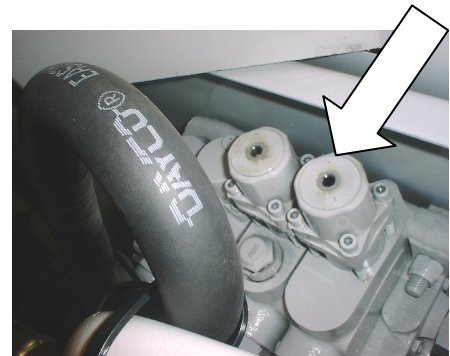

Fig 5
- ❑ 3-The “rule of thumb” is...1/4 turn of the k-o's allen-head adjuster is roughly equivalent to **100 PSI** of setting change. Based upon where the k-o positioner is presently “checked” to be set at...turn the k-o's allen head adjuster inward (cw...raising the pressure setting) or outward (ccw...lowering the pressure setting) to *get closer* to the EXCEL specification. <FIG. 5>